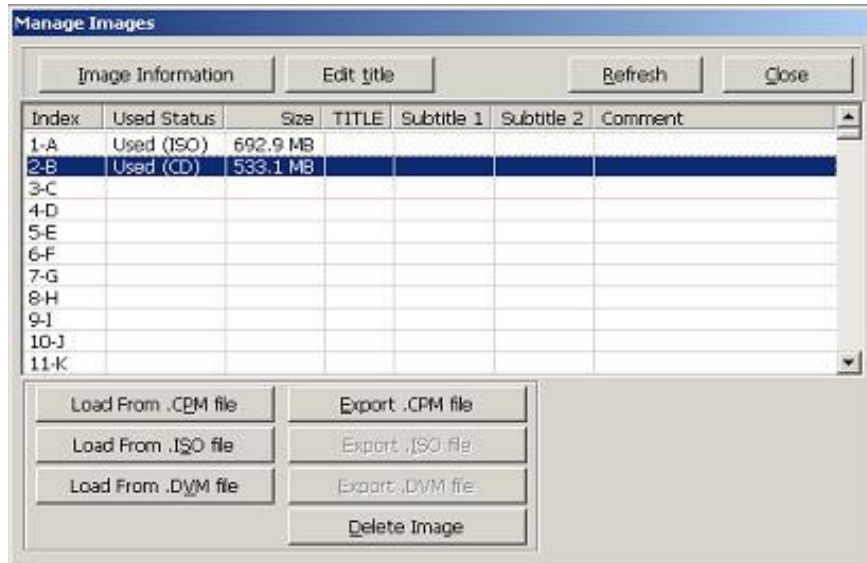
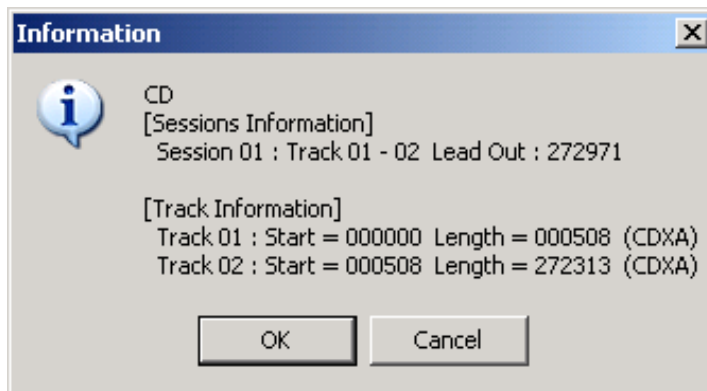

Figure 7
Figure 8
8. You can now see the newly loaded image file in Partition B as shown in Fig. 7.
9. At Fig. 7, click on Image Information to see the file details as shown in Fig. 8.
10. At Fig. 8, click on “Confirm” to return to Fig. 7. Now click on “Edit Title” to edit the file title. You can have up to three titles and choose to include comments.